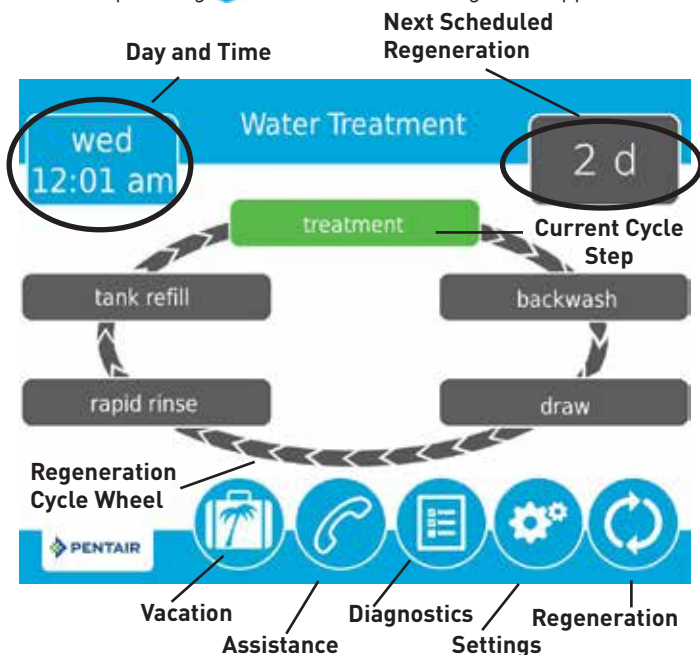

Figure 7 Home Screen
5. After pressing , the Home screen (Figure 7) appears.